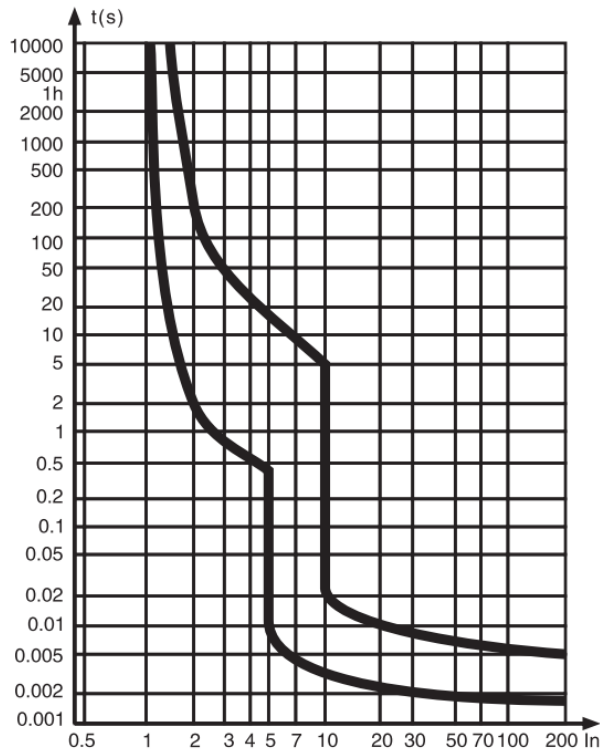
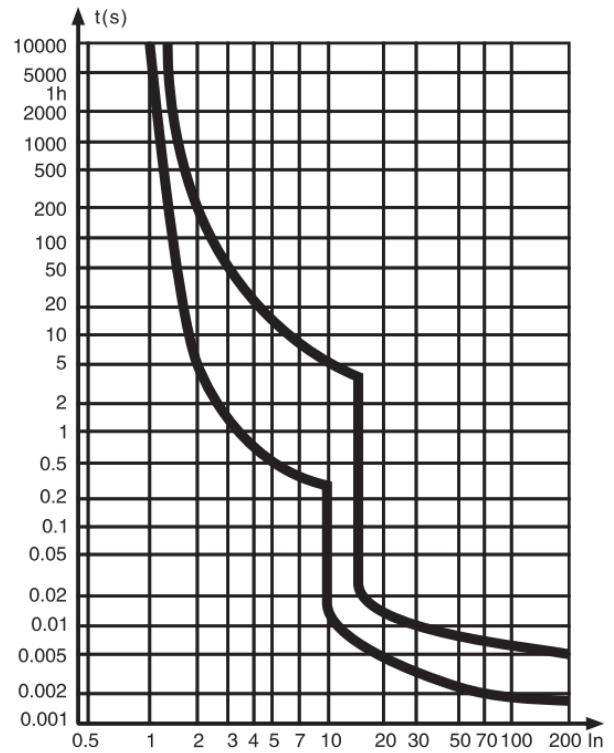

Fig. 1 C type thermal/electromagnetic trip characteristics curve
Fig. 2 D type thermal/electromagnetic trip characteristics curve
- Protection characteristics curve of circuit breaker are illustrated in Fig. 1 and Fig. 2